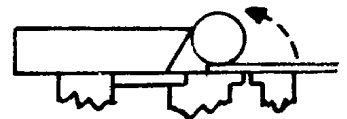

FIGURE 5
2. Position the workpiece, keeper and bar as shown in Figure 5. Be sure that keeper does not overlap front pole piece. Position the leading edge of the workpiece as nearly under the center of the bar as possible, to obtain a minimum flat section in the finished roll.